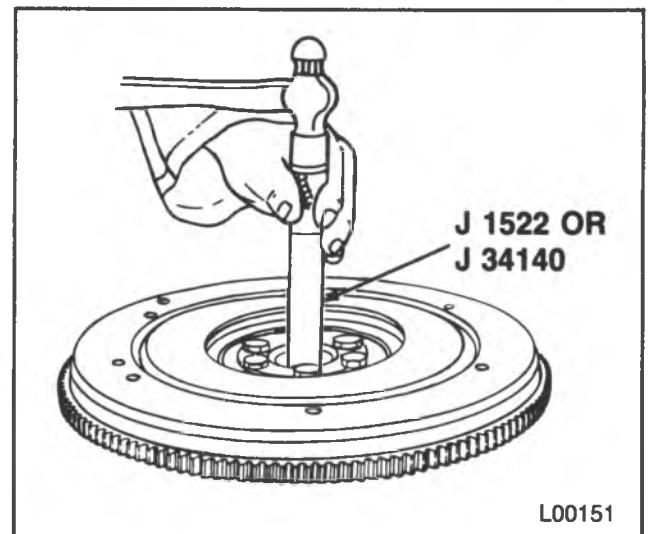

Figure 14 — Pilot Bearing Driver
2. Straps (219) and screws (218).
3. New pilot bearing (217) if needed. Use J 1522 or J 34140 as needed to drive the bearing in until the tool bottoms out (figure 14).